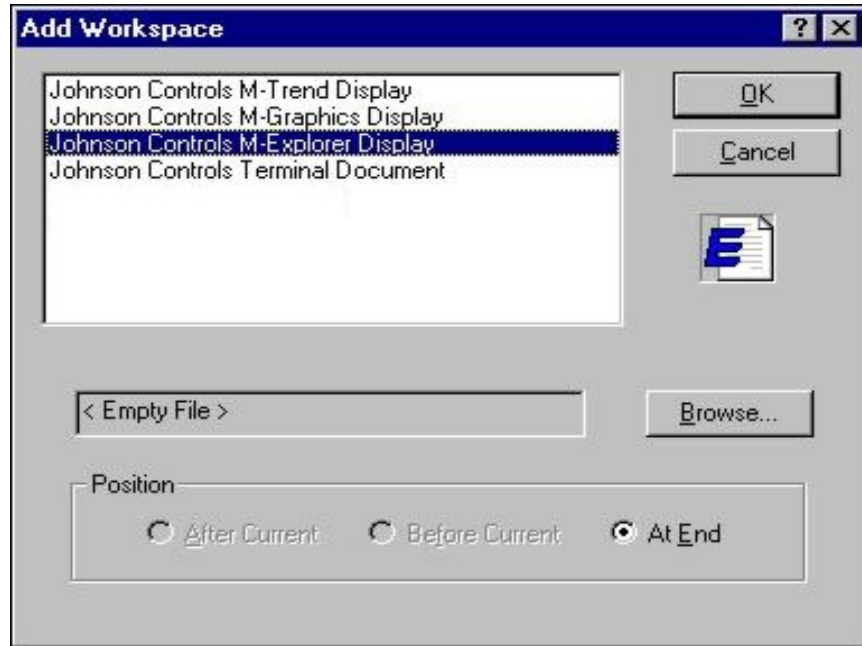

Figure 3-2: Add Workspace Window
2. Select Add Workspace from the M3 Options menu. The Add Workspace window appears (Figure 3-2).